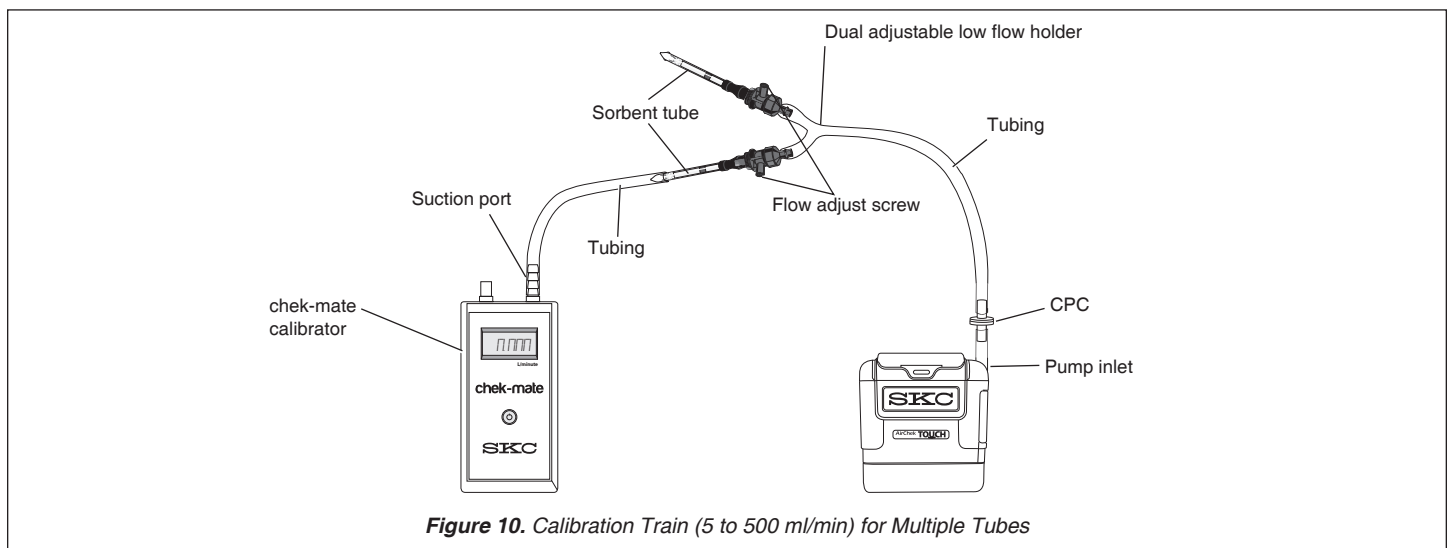

Figure 10. Calibration Train (5 to 500 ml/min) for Multiple Tubes
1. On the tube holder, insert an opened representative tube (arrow on tube pointing toward the pump) into the rubber sleeve of a port. Repeat for the desired number of tube samples. See Figure 10.